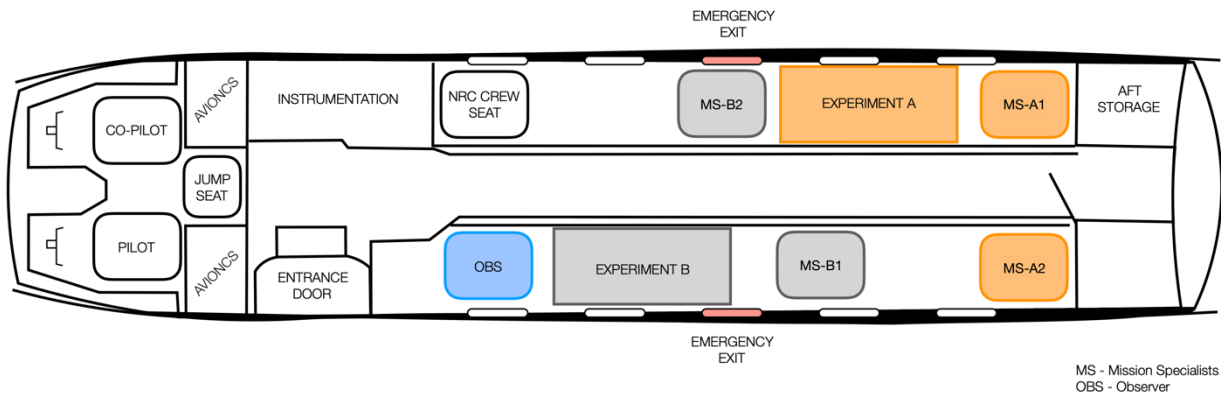

Figure 4: Cabin Layout; MS = Mission Specialist.
The aircraft cabin will be set up as shown in Figure 4. Two teams fly on each flight, one experiment on each side. The primary operator will be seated immediately behind the experiment, with the secondary operator seated across the aisle. Each experiment will have access to 5 Amps (A) of 115 Volts of Alternating Current (VAC). All teams must use the power from this aircraft outlet and batteries (not including laptop batteries) will only be allowed in the experimental setup in certain special cases. Every seat is equipped with an intercom headset with which communication with teammates, pilots, and other NRC crew is facilitated. Standard ¼” mounts placed around the cabin are available for small cameras.